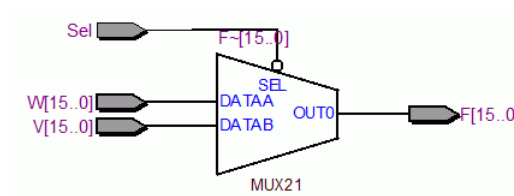

Figure 30: The multiplexer subcircuit.
- Details of subcircuits can be seen by clicking on the box that represents a subcircuit. Select the Selection Tool from the toolbar (near the Zoom Tool), and double-click on the *mux2to1* box to obtain the image in Figure 30. It shows the multiplexers used to choose either the *Areg* or *Z* vector as one of the inputs to the adder, under control of the *Sel* signal. Observe that the multiplexer data inputs are labeled as specified in the Verilog code for the *mux2to1* module in part *b* of Figure 12, namely as *V* and *W* rather than *Areg* and *Z*.